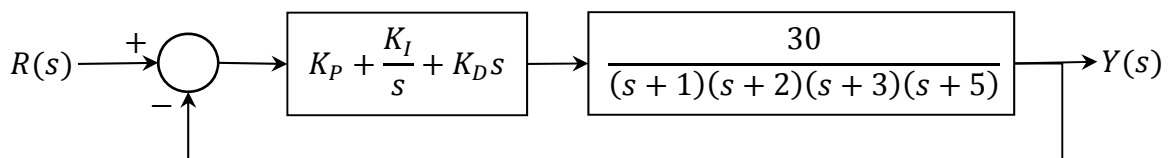

Figure 5
5. A unity feedback system as shown in Figure 5 is used to control the altitude of an unmanned aerial vehicle using proportional integral derivative (PID) controller. To begin the closed loop Ziegler-Nichols PID tuning process, set $K_I = 0$ and $K_D = 0$ then increase K_P until the feedback system has sustained oscillations.